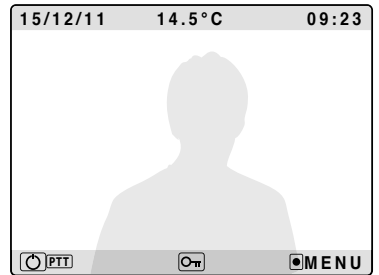

Fig. 10
- To answer in hands free mode press the button (**Fig. 10**) (or pick up the handset on model Art. KRV86);